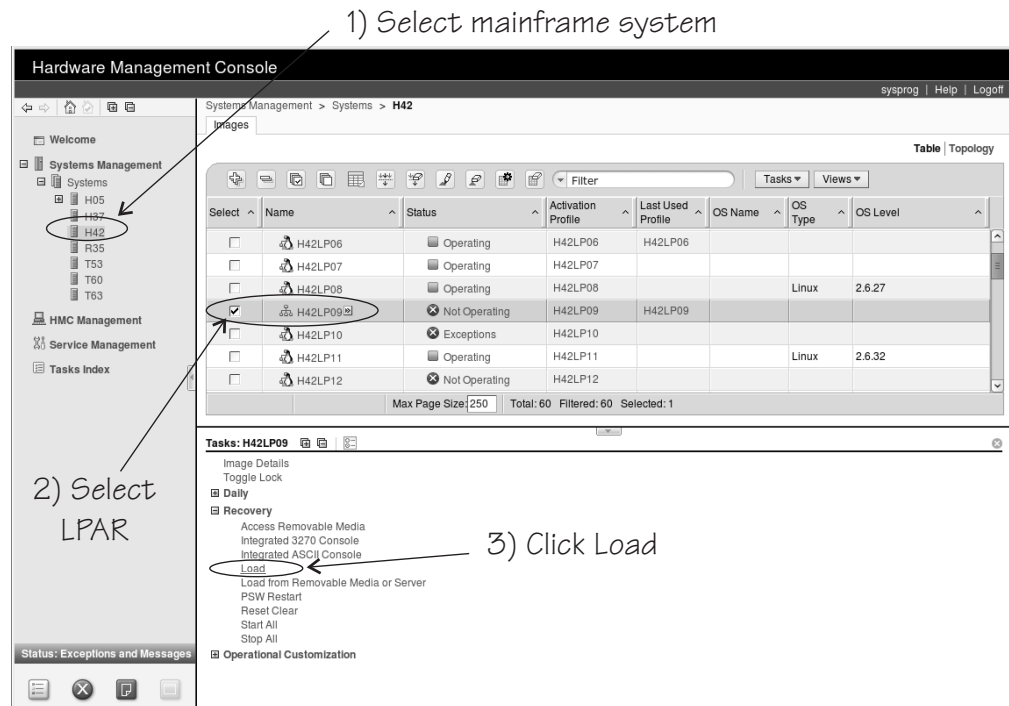

Figure 23. Load task on the HMC
3. In the **Tasks** area, expand **Recovery** and click **Load** (see Figure 23).